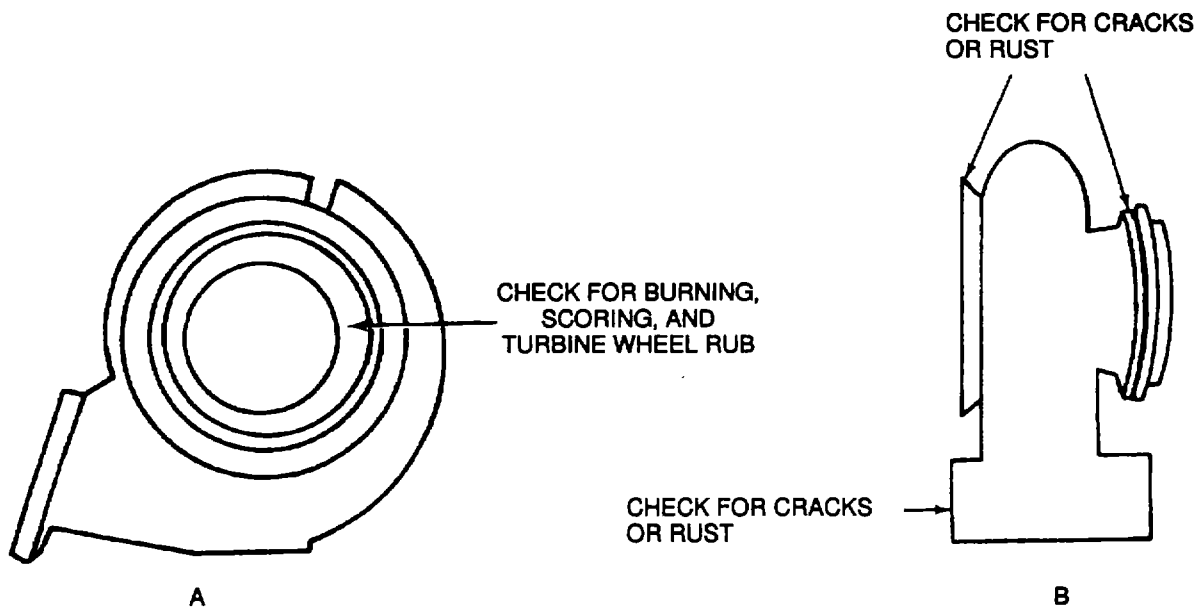

Figure 9-72. Inspection of Turbine Housing
- (5) Check the turbine housing contour area for scoring, grooving, burning, and signs of turbine rub (A, Figure 9-72). Check the mounting flanges (B, Figure 9-72) for cracks or rust.